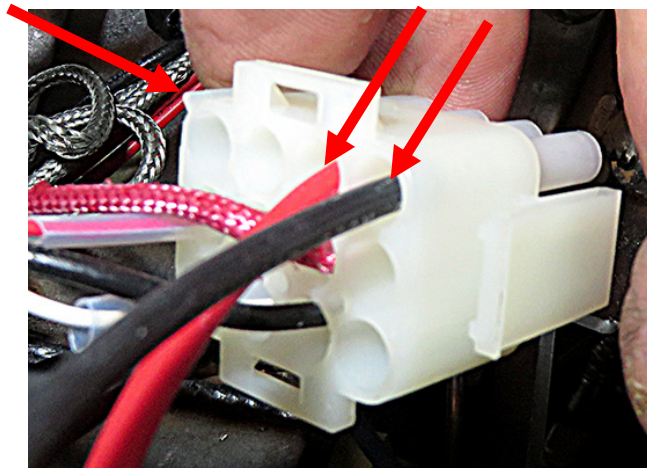
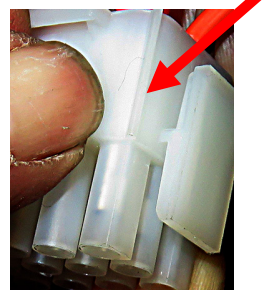

Figure 11
Figure 12
18. Locate new 1083454 harness and insert the red wire into pin 7 and the black wire into pin 10 (see Figure 11) of the harness disconnected in step 13. (**Note** - Pin 1 is indicated by the ridge in the corner (see Figures 12 and 13)). Reference drawing on last page of these instructions.
22. Insert the blue wire from the harness in step 18, to pin 7 and orange wire into pin 10 (see Figure 15) of the harness disconnected in step 21. (**Note** - Pin 1 is indicated by the ridge in the corner (see Figures 12 and 13)). Reference drawing on last page of these instructions.
23. Gently tug on the two (2) wires inserted into the connector in the previous step to ensure the pins are fully locked into the connector.